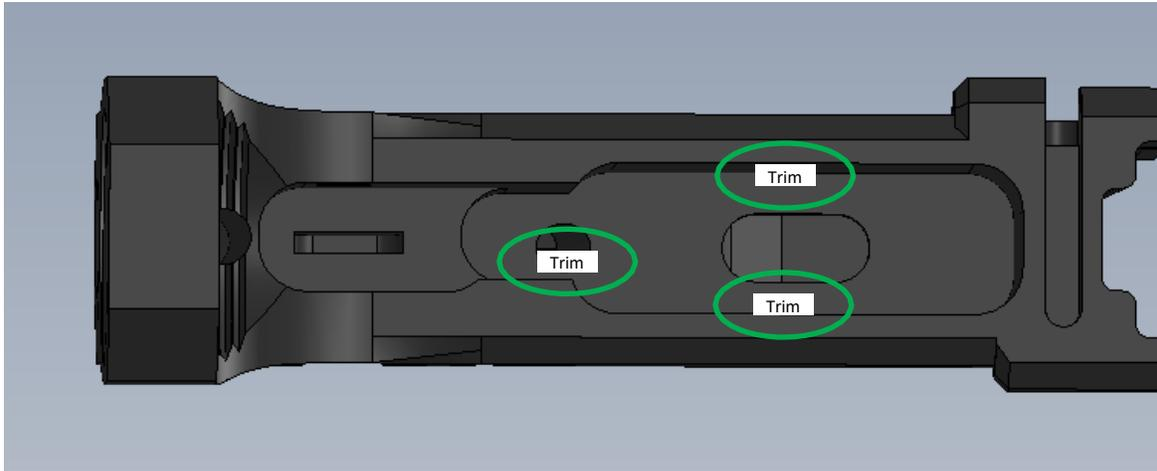

Figure 4
11. Final step is to start the trigger fitting: In **Figure 4**, there are 3 general areas that you'll focus on (besides the trigger hole itself). The trigger should just drop straight down in there cleanly, but it's never happened to me without some additional fine tuning. **Using the dremel bit on the slowest setting**, I carefully and slowly trim surfaces to make sure the trigger operates smoothly. The rear section on the left side of the below figure is where you need to be careful not to penetrate too far on the wall because the safety selector switch **detent and spring** are very close to this area, and the Milspec leaves very little room for error.